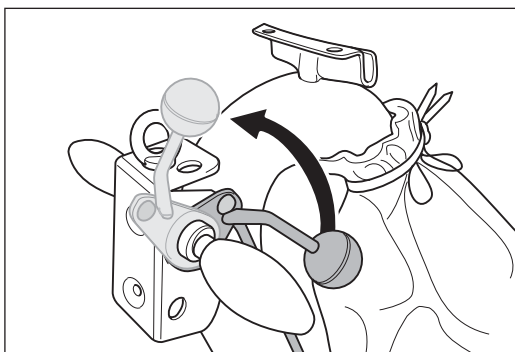

Fig. 46 Lift the sanding drum off the floor by turning the lowering lever at the handle upwards.
- 1 Lift the sanding drum off the floor by turning the lowering lever at the handle upwards (fig. 46).